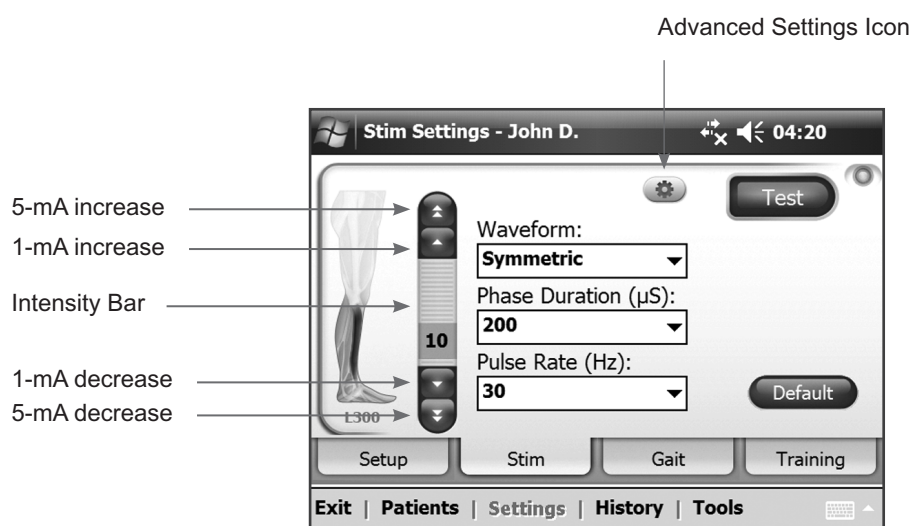

Figure 7-20: **L300 tab**, Stim Settings window (**L300 Only** configuration).
1. Press the **Stim tab** and the **L300 Tab**. See Figure 7-20.